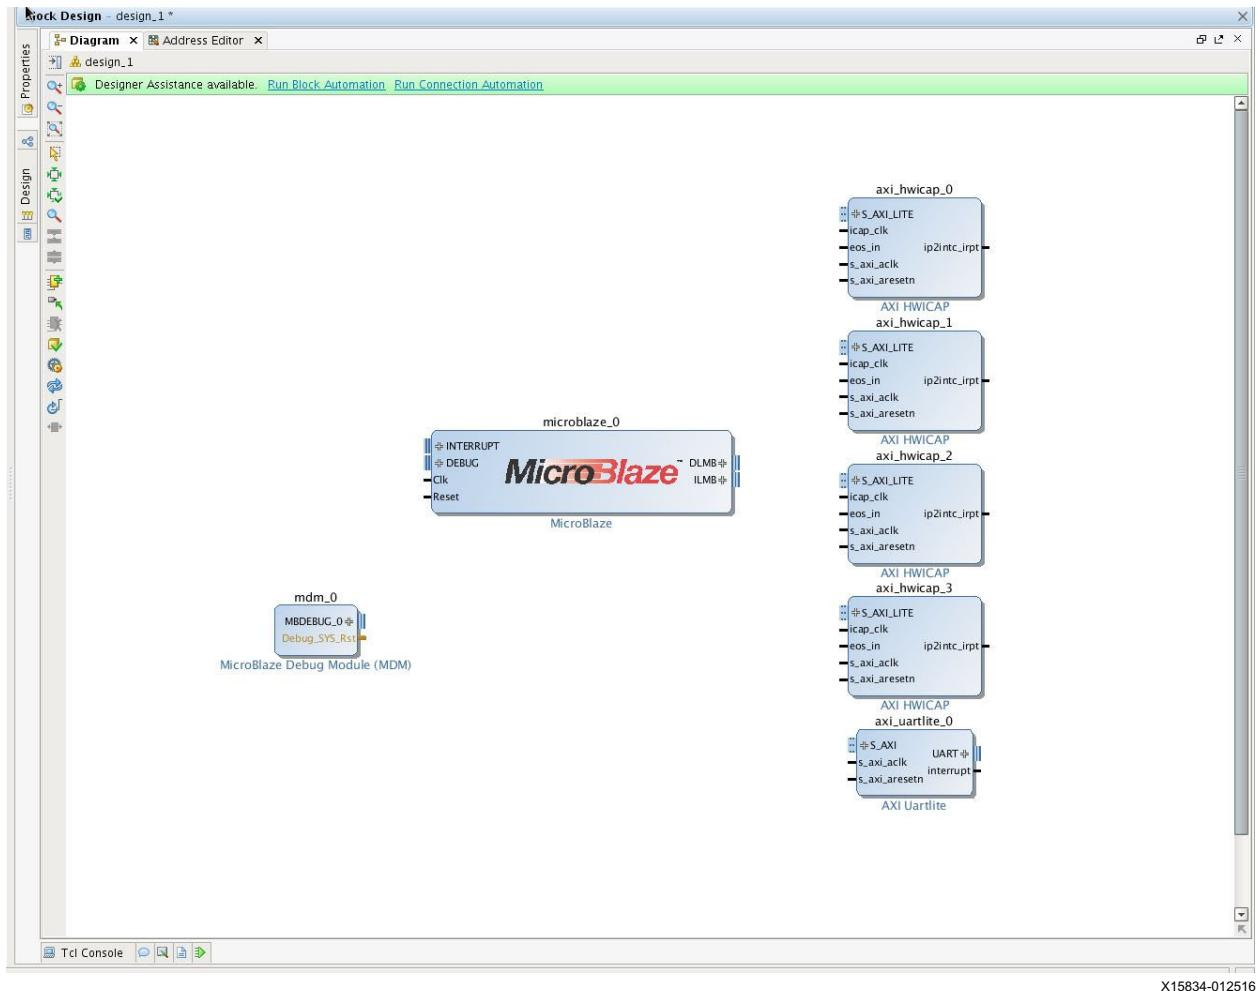

Figure 6: Initial IPI Project
9. In Figure 6, right click on the empty diagram to select *add IP*. Add a MicroBlaze processor, a MicroBlaze debug module, four AXI hardware ICAP IPs, and an AXI universal asynchronous receiver transmitter (UART) Lite IP.